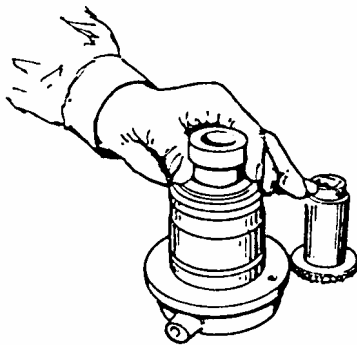

FIGURE 2A
B. PULL BEVEL PINION SHAFT (3) FROM HUB. REMOVE CAP (5) AND BUSHING (7) FROM HUB (8) WITH A PIECE OF PIPE INSERTED INTO BACK OF HUB (SEE FIGURE 2A) TAP SEAL (6) OUT OF HUB; REPLACE "O" RING SEAL (9). COAT NEW SEAL (6) WITH LIQUID GASKET MATERIAL BEFORE REASSEMBLING.